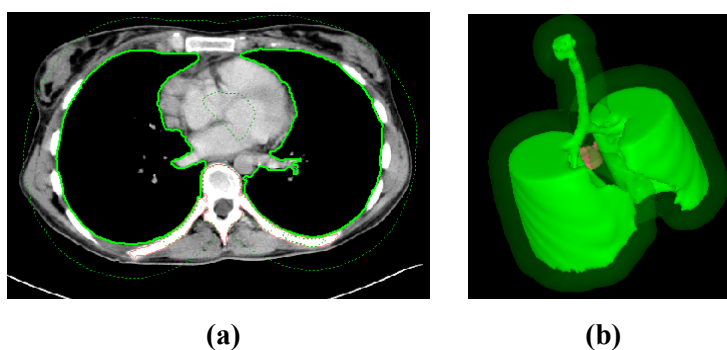

Figure 271 – Created ROI margin in 2D (a), in 3D (b)
- Click the **Calculate** button. The created margin will be displayed as a dashed line (see Figure 271).